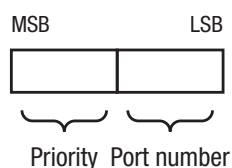

Figure 29: Port Identifier
- If two paths with the same root path costs lead out from a bridge, the port identifier is used as the last criterion (see fig. 29). This decides which port is selected.